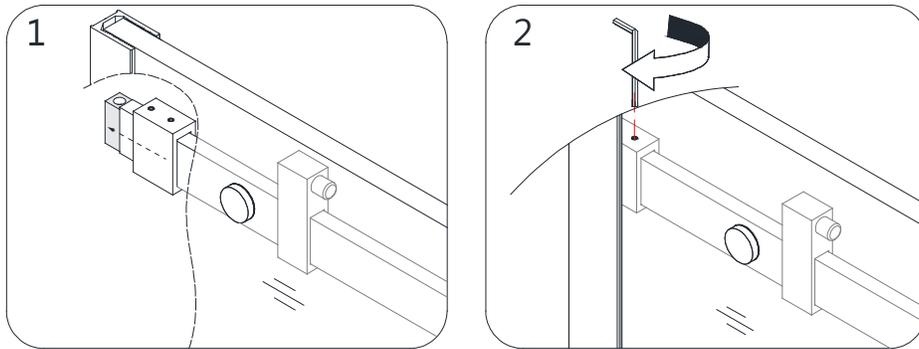

Fig 15
15. Align the panel end of the **Guide Rail (#04)** with the installed **Guide Rail Wall Bracket (#6b)**. Slide the **Guide Rail Bracket (#6a)** over the **Guide Rail Wall Bracket (#6b)** and tighten the set screws. (**Fig 15**)